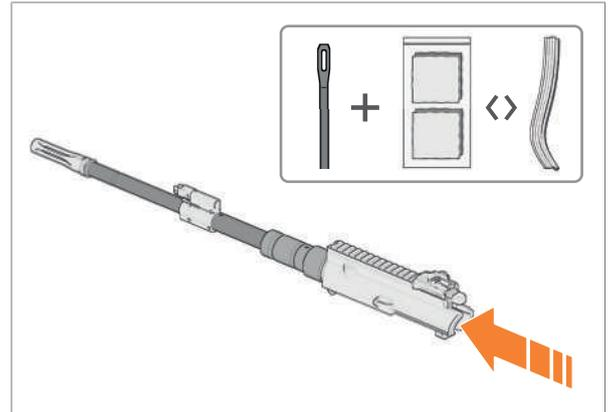

Fig. 109: Clean barrel
10. Pull clean cleaning pull-throughs / cleaning cloths through the barrel to remove heavy soiling (*Fig. 109*).